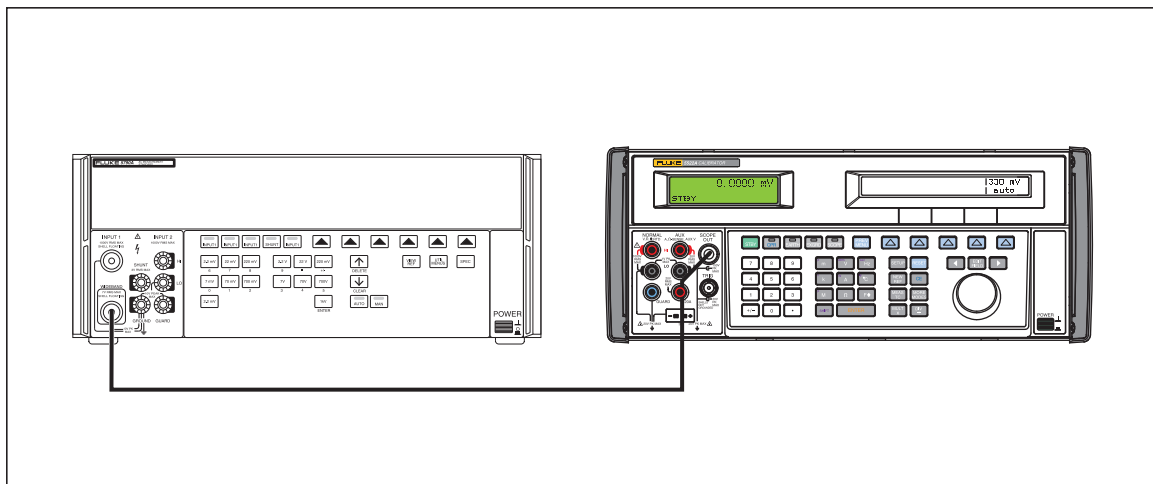

Figure 6-11. Calibrator to 5790A Measurement Standard Connections
3. Connect the Type N connector to the HP 5790A WIDEBANC input. See Figure 6-11.